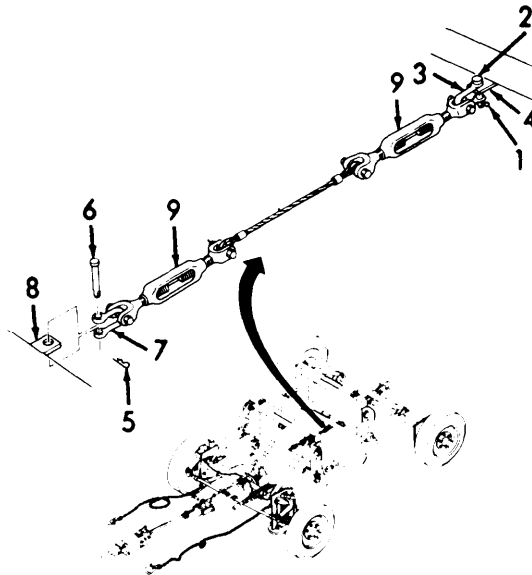

Figure 3-44. Cable, Installation.
(1) place turnbuckle (9, Figure 3-44) with attached cable into position.
(2) Install shackle (7) to bracket (8).
(3) Install pin (6) and cotter pin (5).
(4) Install shackle (3) to bracket (4).
(5) Install pin (2) and cotter pin (1).